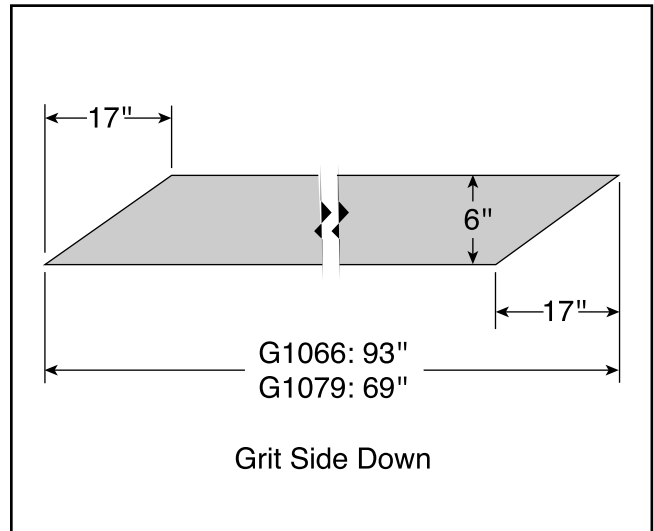

Figure 14. Illustrates paper preparation.
4. Unwind the old sandpaper and use it as a pattern or use the pattern in **Figure 14** to cut a piece of 6" wide sandpaper of the desired grit. It is necessary to cut a triangular portion of the paper away at each end.